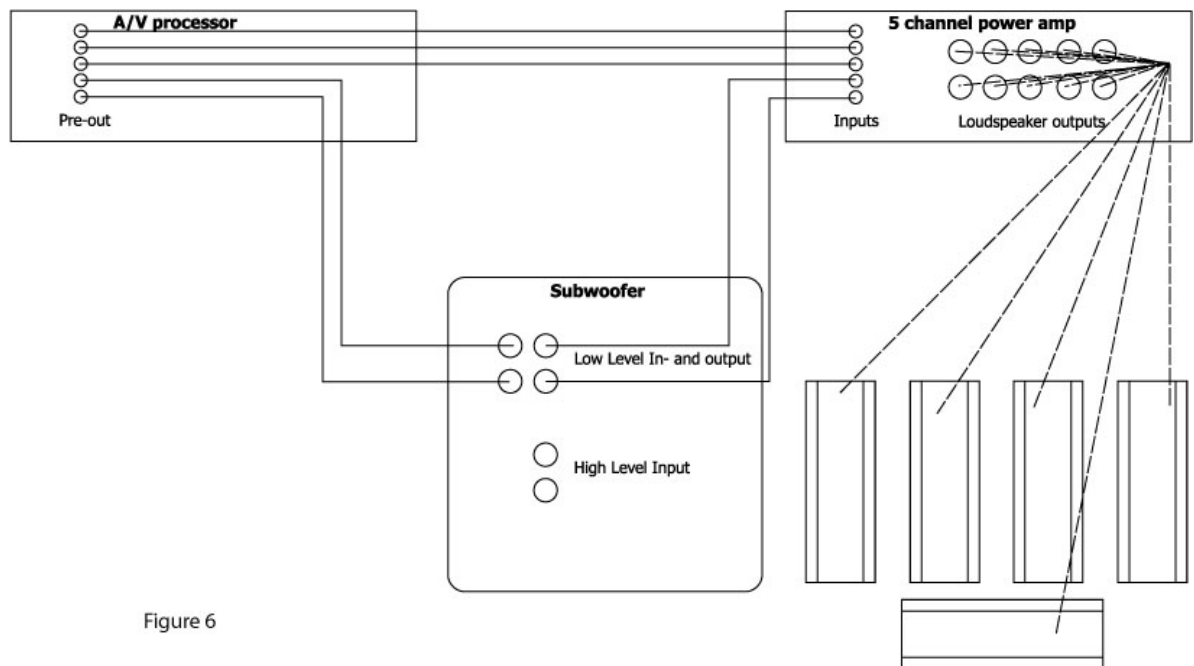

Figure 6
+ The connection scheme is according to Figure 6. Instead of applying one five channel amp, you use combinations of mono, two channel and/or three channel chassis.
**(Figure 6) If you use a separate Dolby Digital/DTS processor and outboard power amplifiers.**